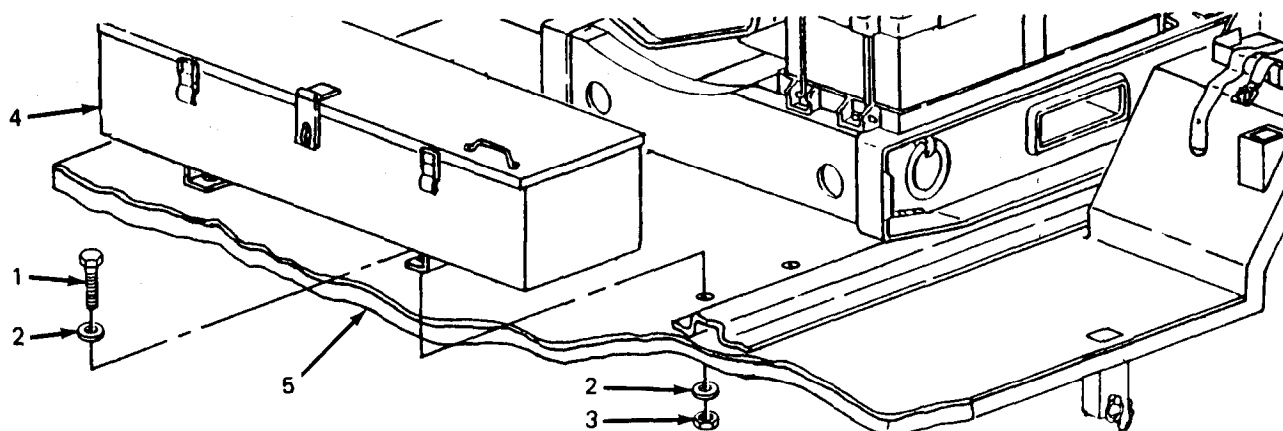

Figure 4-5. Accessory Box Replacement.
**4-19. Accessory Box Replacement.** (See figure 4-5.) The power plant is equipped with an accessory box which is mounted to the trailer bed between the front and rear generator sets.